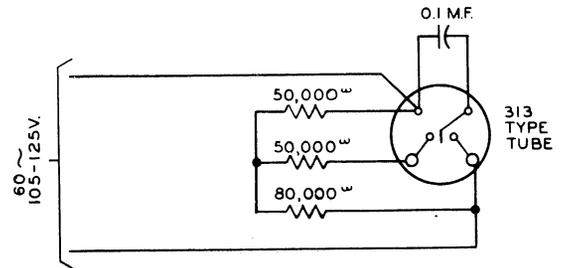

Fig. 2 - Stroboscopic Lamp Circuit
(3) To make up a stroboscopic lamp, connect a 313-type vacuum tube as shown in Fig. 2. It will be necessary to remove a part of the black coating from the outside of the lamp. This may be done by scraping or dipping in acetone. This lamp, when connected to a 60-cycle source, will produce 3600 flashes per minute. Make a chalk mark on some rotating part of the machine. If the speed is 3600 rpm, the mark, when illuminated by the lamp, will appear to remain stationary. If the speed is less, it will appear to rotate backward with respect to the rotation of the machine. The number of apparent revolutions of the mark in one minute is the difference between 3600 rpm and the speed of the machine.